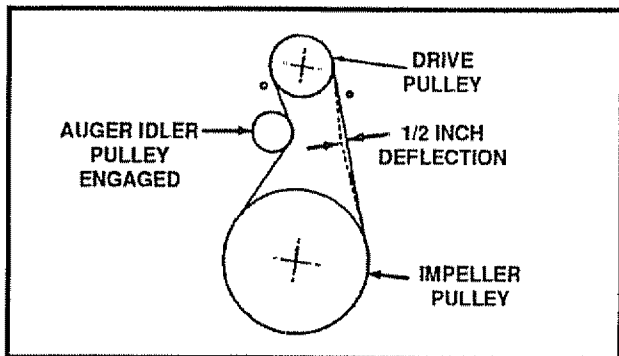

FIG. 25
- Press the auger drive lever. Check the tension on the belt (opposite auger idler pulley). The belt should deflect about 1/2" with moderate pressure (See Fig. 25).